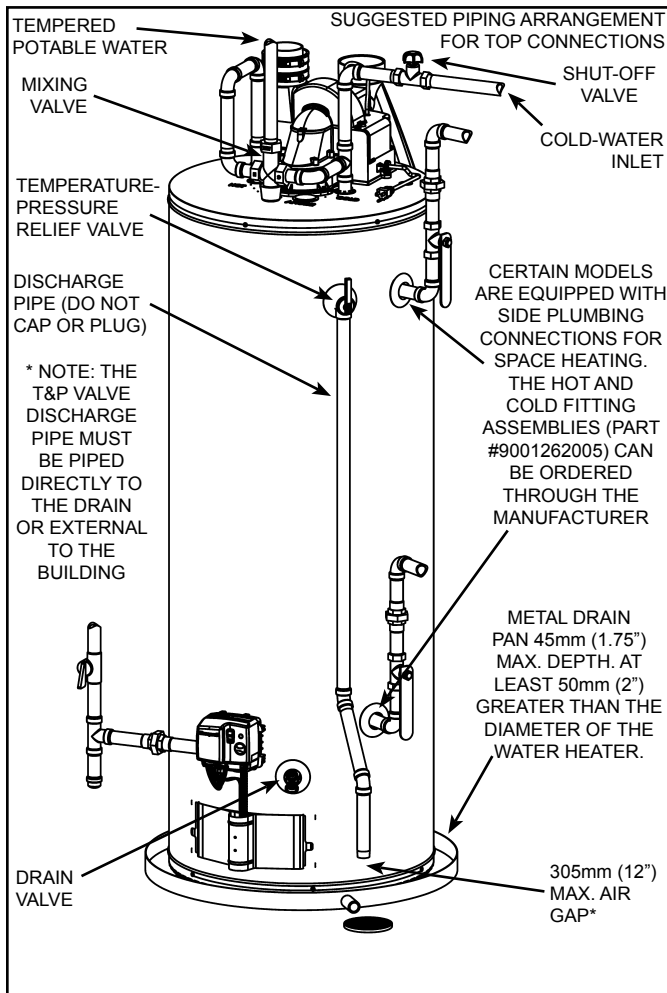
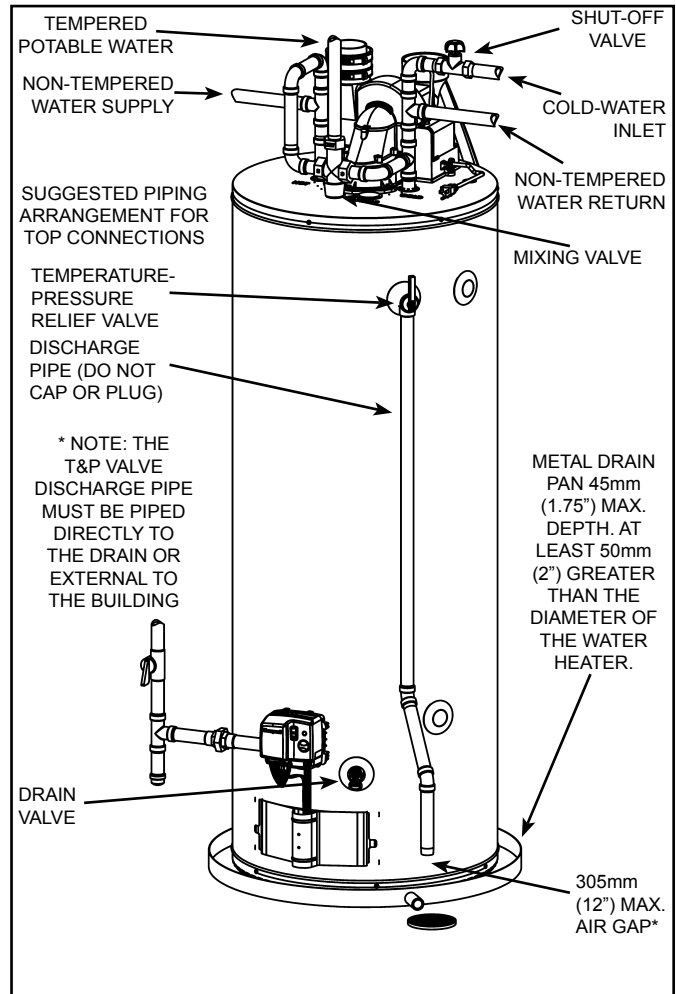

Figure 7
Figure 8
Models equipped with Combo Heating capabilities have the two side plumbing taps plugged (item 7 and item 10 in Figure 1 and see also Figure 7 & Figure 8). If the heater is to be installed in a Combo Heating application, these plugs must be removed.
In addition to using lowest possible temperature setting that satisfies demand of application, a mixing valve should be installed at water heater (see Figure 7 & Figure 8) or at hot-water taps to further reduce system water temperature. Mixing valves are available at plumbing supply stores. Consult a Qualified Installer or Service Agency. Follow mixing valve manufacturer’s instructions for installation of the valves. Before changing the factory setting on the thermostat, read the “Operating The Temperature Control System” section in this manual.